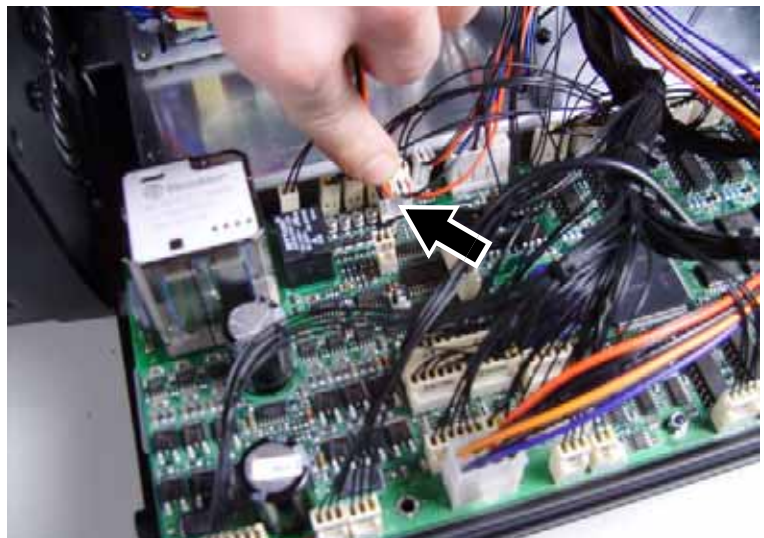

Figure 13
14. See Figure 13. Disconnect the low-voltage ballast fan connector (arrowed) from connector PL58 (F7) on the main PCB.